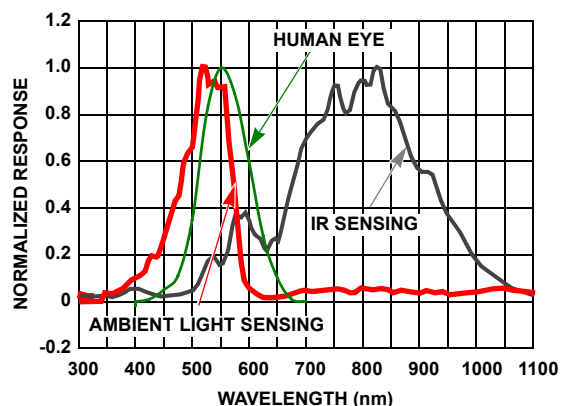

FIGURE 4. NORMALIZED SPECTRAL RESPONSE FOR AMBIENT LIGHT SENSING AND IR SENSING
The ISL29023 contains two photodiode arrays, which convert light into current. The spectral response for ambient light sensing and IR sensing is shown in Figure 4, on page 4. After light is converted to current during the light signal process, the current output is converted to digital by a built-in 16-bit Analog-to-Digital Converter (ADC). An I²C command reads the ambient light or IR intensity in counts.
When the part is programmed for ambient light sensing, the ambient light with wavelength within the "Ambient Light Sensing" spectral response curve in Figure 4 is converted into current. With ADC, the current is converted to an unsigned n-bit (up to 16 bits) digital output.
When the part is programmed for infrared (IR) sensing, the IR light with wavelength within the "IR Sensing" spectral response curve in Figure 4 is converted into current. With ADC, the current is converted to an unsigned n-bit (up to 16-bits) digital output.